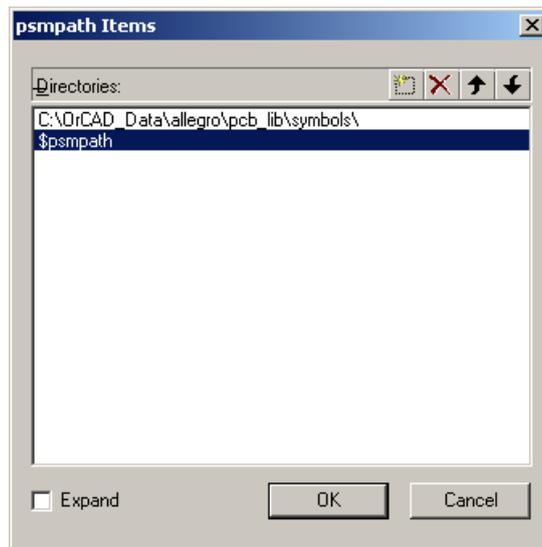

Figure 6. Completed dialogue box for setting up psmath. Your directory path will be different.
5. Navigate to the Elecapps drive (Q), find the allegro directory, then pcb_lib and finally symbols. Click OK to select this directory.
6. Next we must tell PCB Editor to look in our local directory before the default libraries, denoted by \$psmpath. Click on \$psmpath followed by the Move Down arrow. The psmath Items box should now look like figure 6 except that your directories are different (my computer is not on the same network). Click OK.